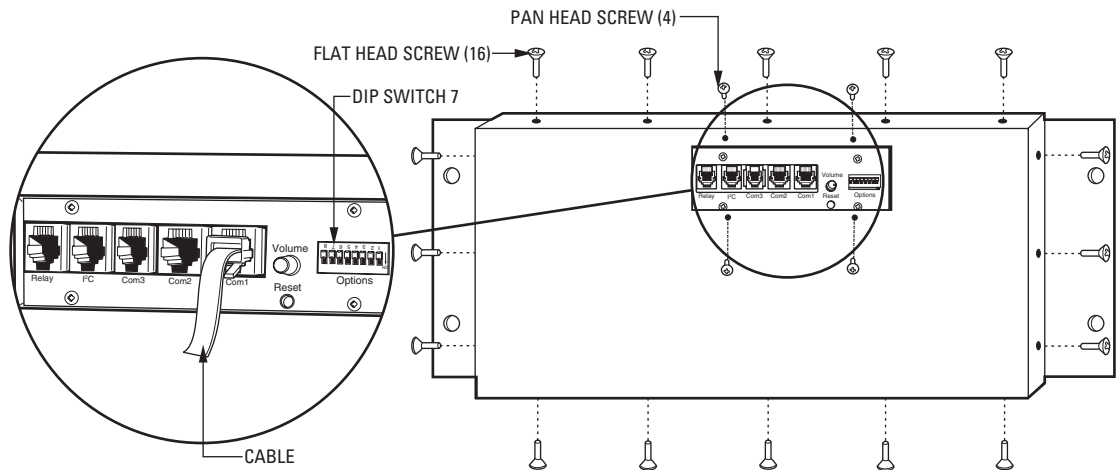

Figure 4. Rear of CM9760-KBR
3. Disconnect the KBR from the 9760 system by unplugging the cable from the COM 1 port on the rear of the KBR (refer to Figure 4).
5. Locate DIP switch 7 on the rear of the KBR (refer to Figure 4), and set the DIP switch to the correct position: